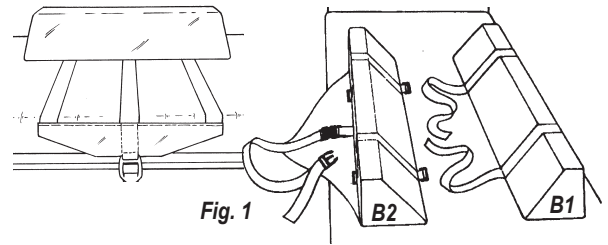

Fig. 1
1. Place the bolsters on the bed, as shown in Fig. 1 and the straps with the side release buckle to the outside. Note, on double bolster system, that on one bolster the fabric loop straps are located inward and on the other bolster the 2" webbing straps are placed inward (Fig. 1).